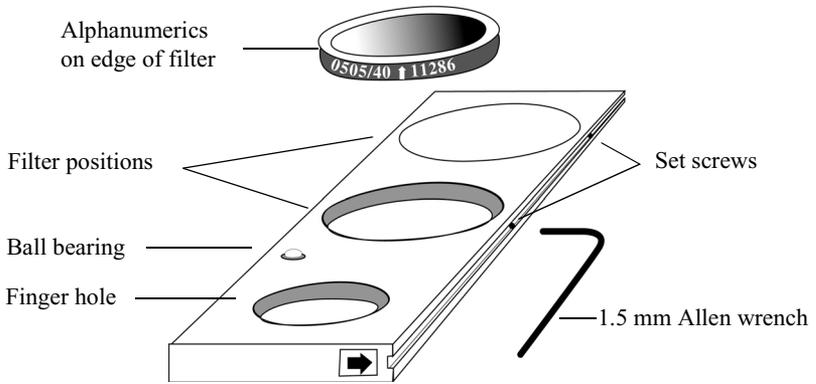

Figure 3-3. Changing optical filters
4. Hold the filter holder in your left hand, so that the arrow on the edge faces you and points to the right and the ball bearing on surface of the holder faces up. See Figure 3-3 on page 3-7.